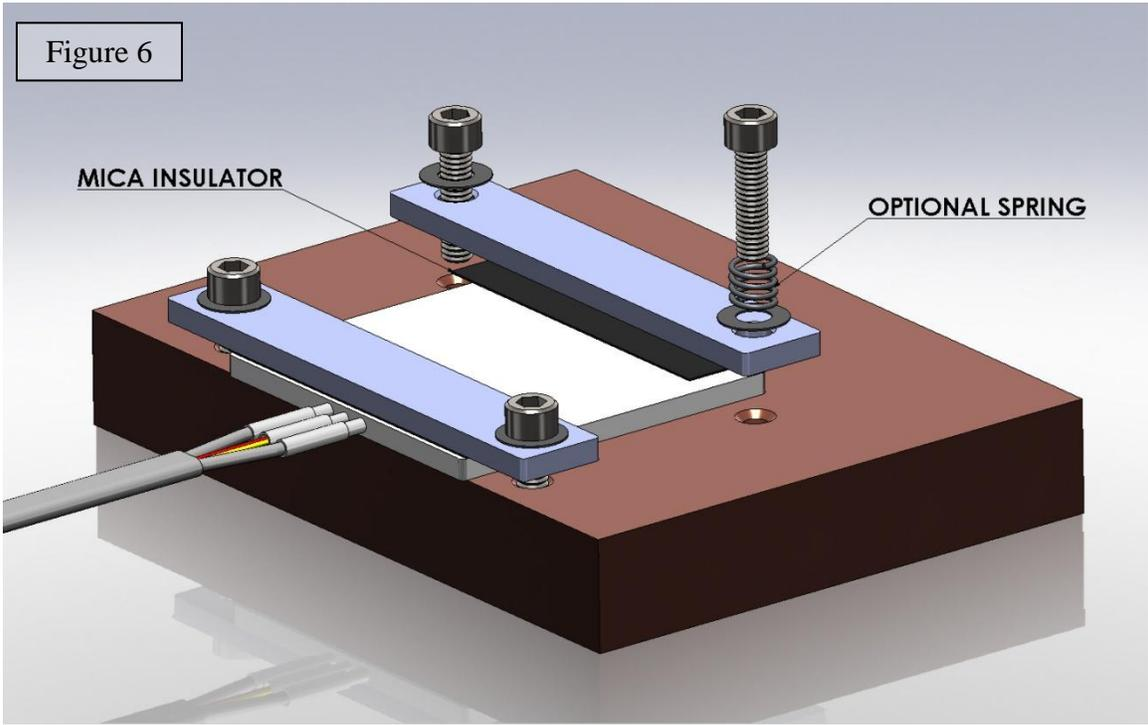

Figure 7
Dielectric Strength Considerations – The standard heater termination includes a short ceramic bead over a metal pin wire as shown in Figures 7 and 8 below. To ensure appropriate dielectric strength, consider the combination of the voltage, heater thickness, atmosphere and dielectric clearance. Suggested methods for ensuring sufficient dielectric strength include:
- Extending the heater termination area beyond the mating part (as highlighted in Figures 7 and 8)